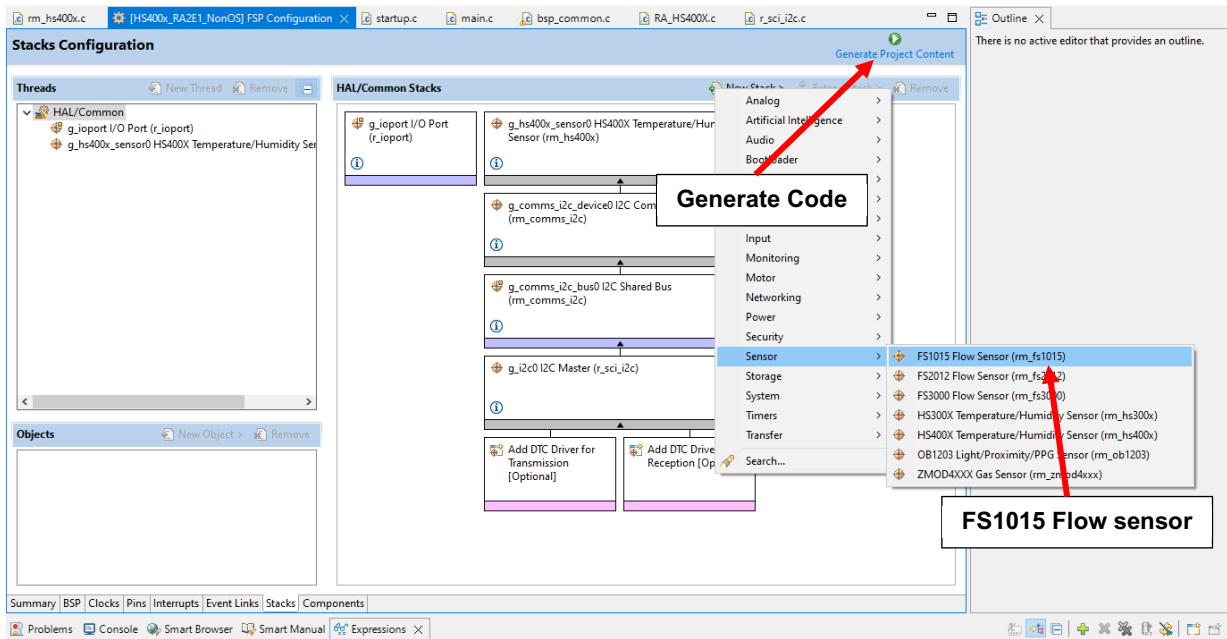

Figure 2. Stack Selection in Renesas e2 Studio
1. Navigate to the file in the FSP Configuration View. In the case shown in Figure 2, select the FS1015 Flow Sensor.